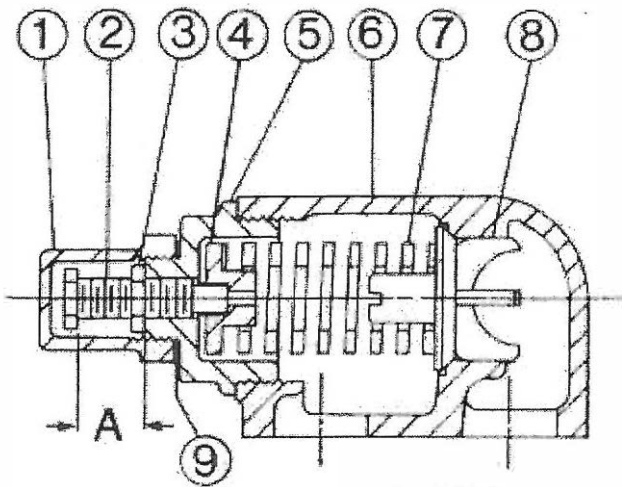
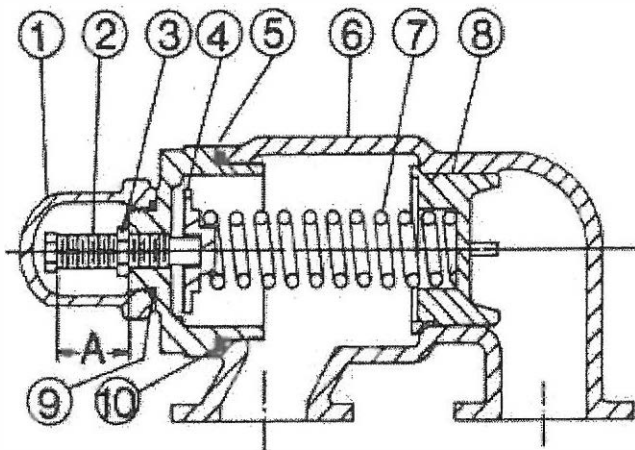

FIGURE 12
FIGURE 13
2. Measure and record length of extension of adjusting screw. Refer to "A" on Figure 12 and Figure 13.